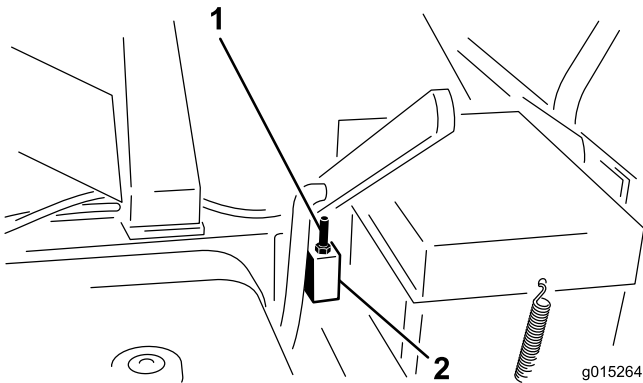

Figure 13
2. Loosen the jam nut on top of the stop and rotate the adjustment bolt up or down until the flap is vertical to the ground (Figure 13).